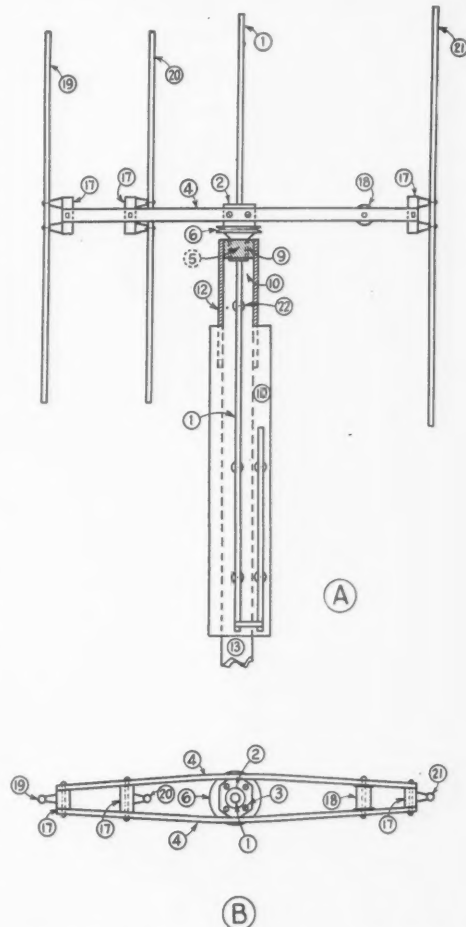

Fig. 5—Sketch showing side and top views of W1GAG's 112-Mc. four-element continuously-rotatable antenna. The numbered details are identified in the text.
IN THE many articles describing u.h.f. rotatable antennas I have been unable to find a design which permits continuous 360-degree rotation without feeder complications, except in the field of the more-expensive units. For this reason, I think perhaps the u.h.f. gang would be interested in a description of an antenna structure which I have just finished. The construction, details of which are shown in Figs. 5 and 6, is simple; the parts, with the possible exception of the elements, are either readily available or easily made without special tools, and the assembly, when finished, is very strong and stable mechanically.
The general arrangement is shown in the sketches of Figs. 5-A and 5-B. My mast happens to be topped off with a section of single 2×4 . Dimensions may be altered to fit a top section of other dimensions, or a short top section of the same dimensions may be added to any existing mast. The two 45-inch director elements (19) and (20), and the single 51-inch reflector element (21) of $\frac{1}{2}$ -inch copper tubing are supported on stand-off insulators fastened to spacing blocks (17) between two 1×2 cross arms (4) approximately four feet long. The additional spacing block (18) is weighted to compensate for the extra element weight on the opposite side of the cross arms.
Fig. 6—Detailed sketches of the rotating head of W1GAG's 112-Mc. directional antenna. A and B are side and top views, respectively. Similar numbers identify similar parts in Fig. 5.